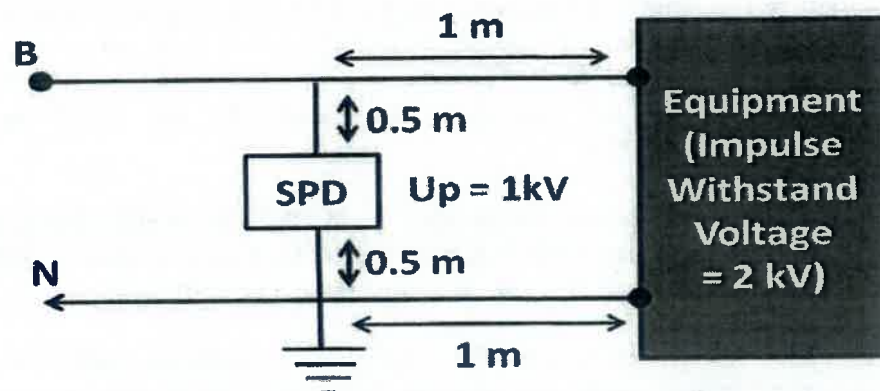

Figure 1 : Connection between SPD and equipment
- A simple example is given in Figure 1 below: